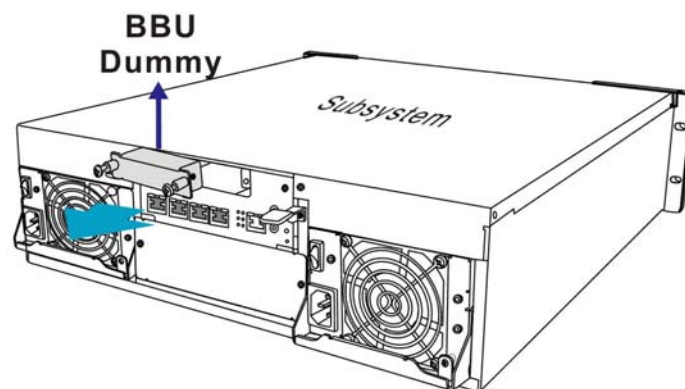

Figure 2-3: Removing the BBU Slot Dummy Plate
Step 3. Once the retention screws are loosened, gently retrieve the dummy plate out of the enclosure. (See *Figure 2-3*)